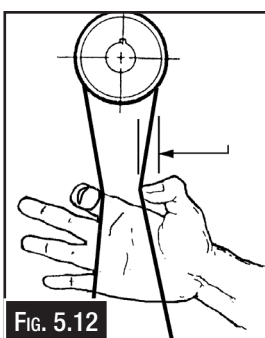

FIG. 5.12
4. Set tension so the belt has slight mid-span deflection under moderate finger pressure. (Fig 5.12).